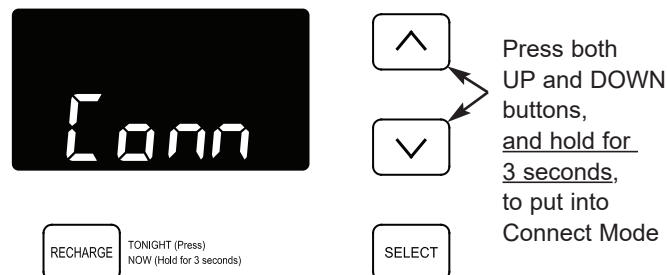

FIG. 32
3. On the water softener's front panel (See Fig. 32), press both the $\triangle$ UP and ∇ DOWN buttons, and hold them for 3 seconds.
4. Release the buttons when “Conn” appears in the display (See Fig. 32) and the connection status light turns solid amber.
2. After signing into your account, verify that the softener is still in Connect Mode (See Fig. 32). In the app, tap **Connect** to add the softener, then **Setup Device** to begin pairing via Bluetooth.